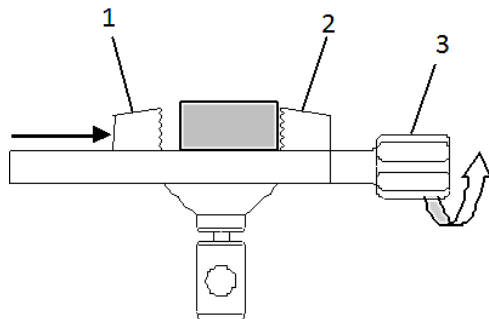

Fig 24
- Insert the specimen on the front fixed jaw, Fig 24 (2) and tighten it via the clamping screw, Fig 24 (3) with the movable jaw, Fig 24 (1).